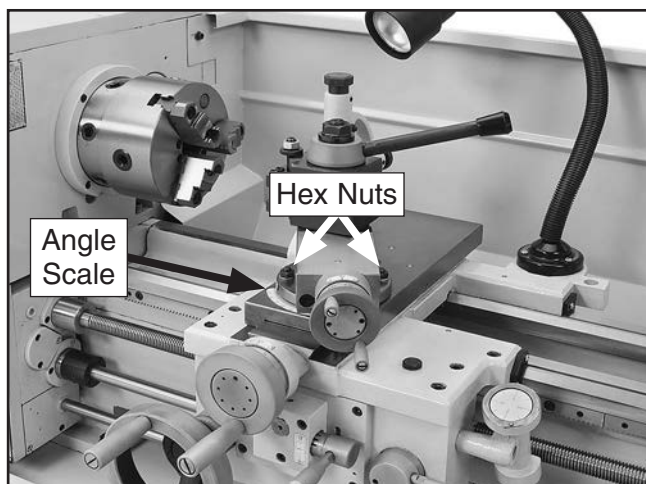

Figure 53. Compound rest.
1. Loosen two hex nuts at base of compound rest (see **Figure 53**).